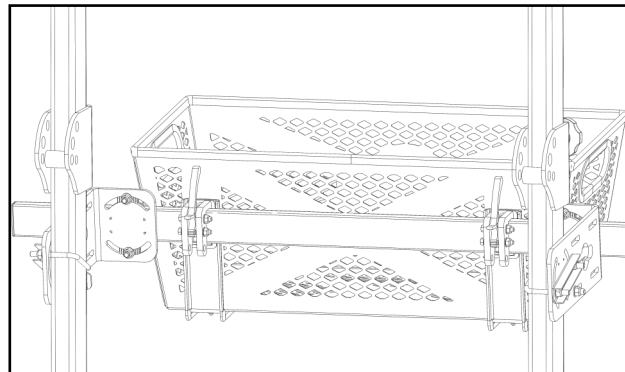

Fig. 1 (attaching the tool basket)
1. Figure 1 shows a tool basket installed onto an Artillian ROPS Mounted Tool Bar.